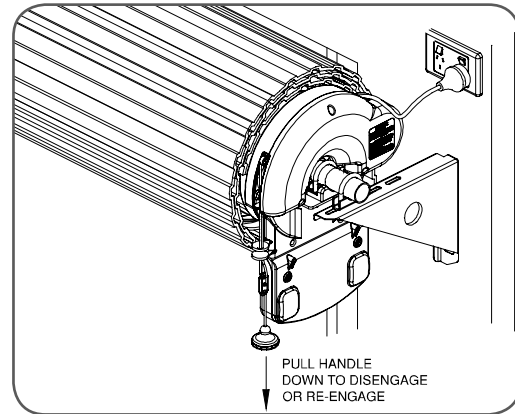

fig 11
- Move the door to halfway open. If necessary, disengage the opener by pulling the cord down (**Fig. 11**).